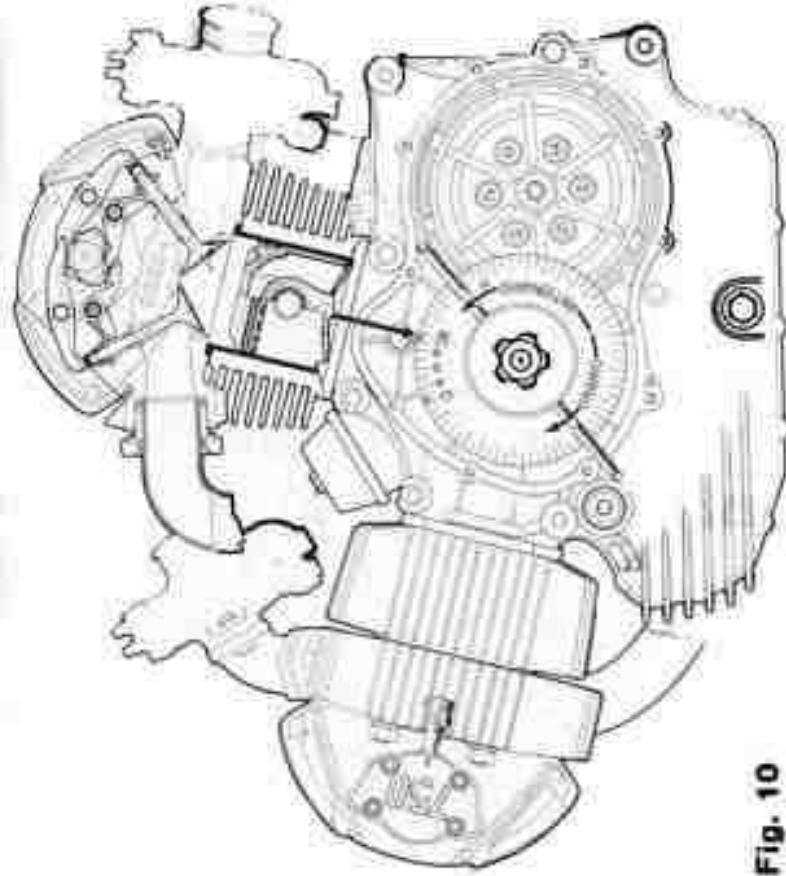

Fig. 10
- 5 - Rotate the engine slowly in the direction of its movement stopping it at  $35^\circ \pm 38^\circ$  of advance (reading it on the wheel), (see Fig. 10).